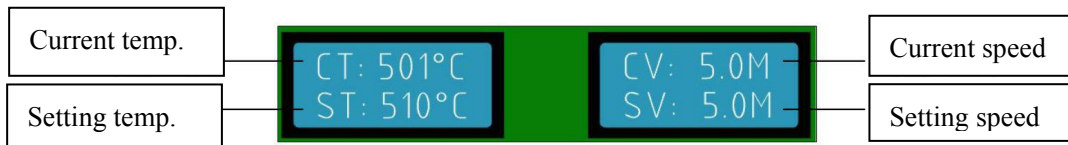

Figure 3
- When the welder starts to move, the LCD display shows as Figure 3.